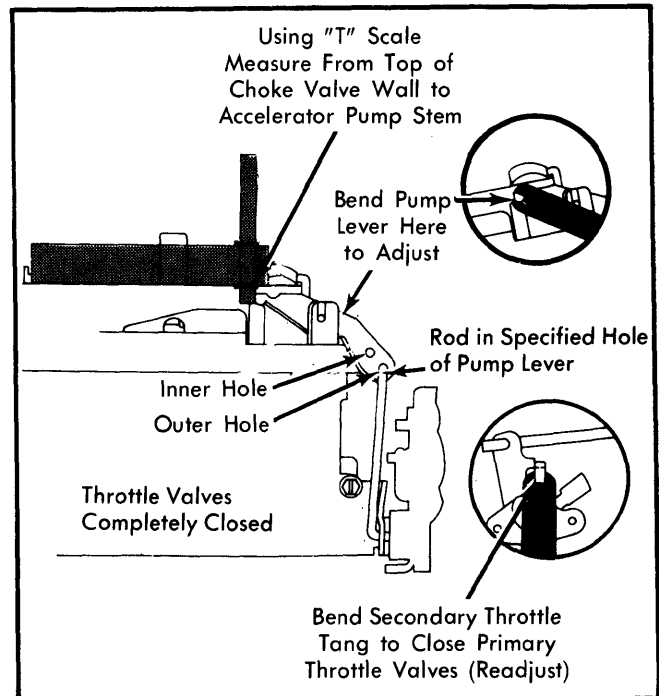

Fig. 3 Adjusting Accelerator Pump
- 1) Close throttle valves completely. Make sure fast idle cam follower is off fast idle cam steps. Bend secondary throttle closing tang to make sure primary throttle valves are fully closed. Readjust after accelerator pump adjustment. See Fig. 3.